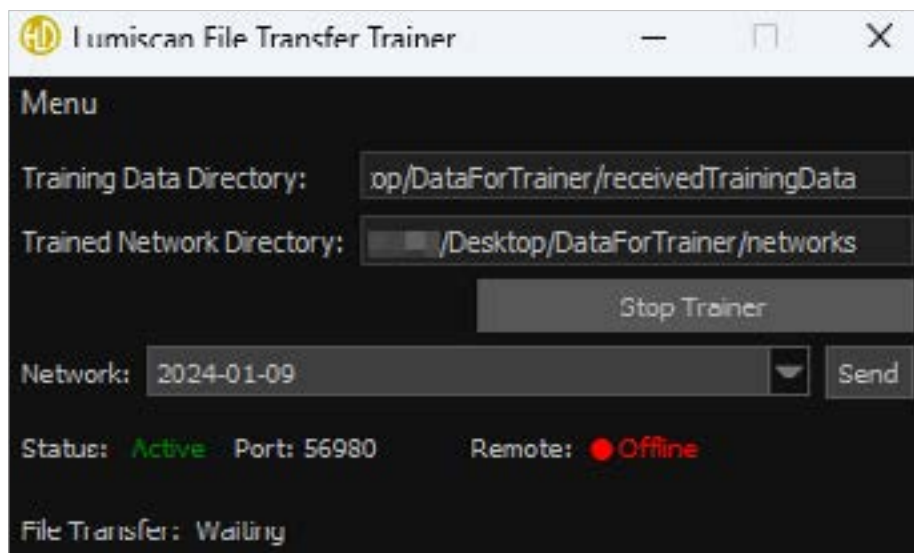

Fig. 37: LumiScan File Transfer Trainer started
2. The status changes to **Active** (Fig. 37).